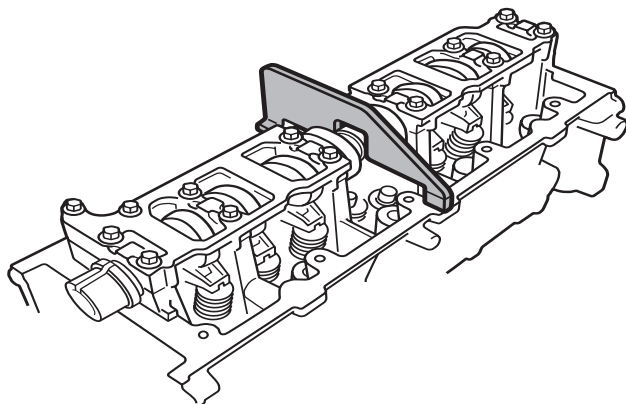

Figure 1
- **1991 4.6L 2V V8 :** Refer to Figure 1. Install No. 511532 (6009) on flats of the camshaft to prevent accidental rotation of the camshafts.